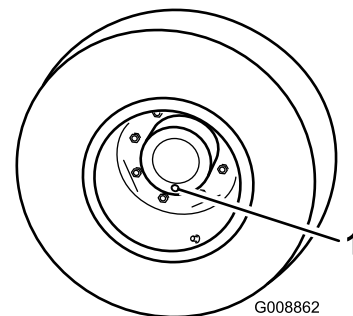

Figure 42
1. With the machine on a level surface, position a wheel so that 1 of the check plugs is at the lowest (6 o'clock) position (Figure 42).